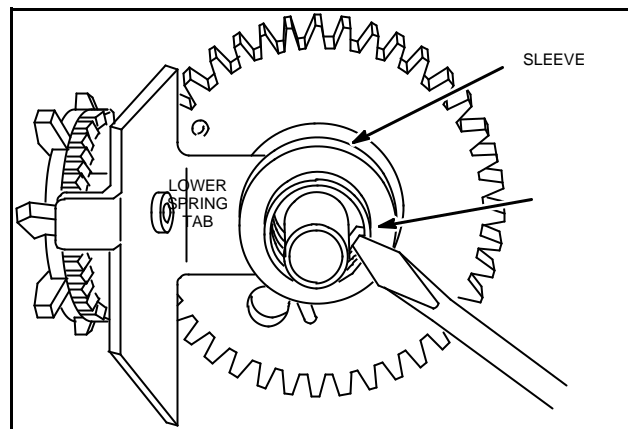

Fig. 159 - REMOVE CLUTCH SLEEVE
3. Use thin blade screwdriver or similar tool to pry lower clutch spring tab out of hole in clutch sleeve, Fig. 159.